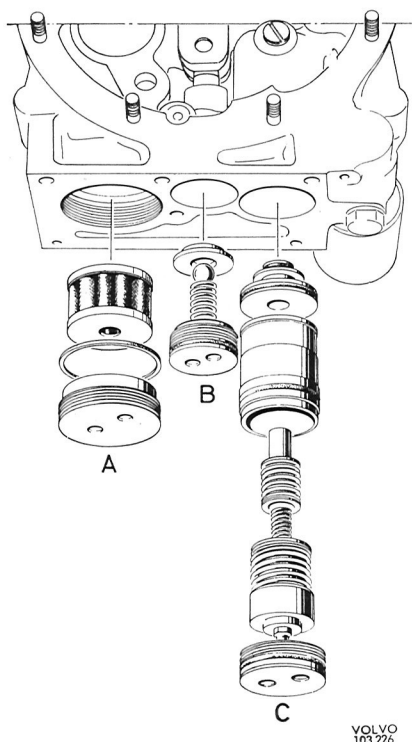

Fig. 4-65. Installation of fine filter, oil pump check valve and relief valve
1. Install the fine filter. Also install the relief valve parts in the following order: End washer, cylinder, small piston, low-pressure spring, large piston and plug, see Fig. 4-65.